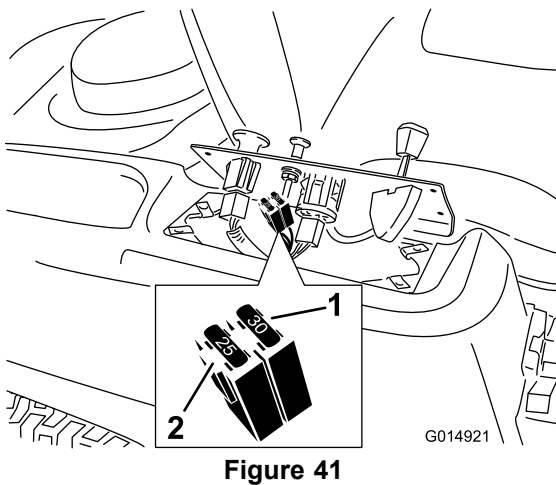

Figure 41
2. Lift the control panel up to access the main wire harness and fuse block (Figure 41).
3. To replace a fuse, pull out the fuse to remove it (Figure 41).